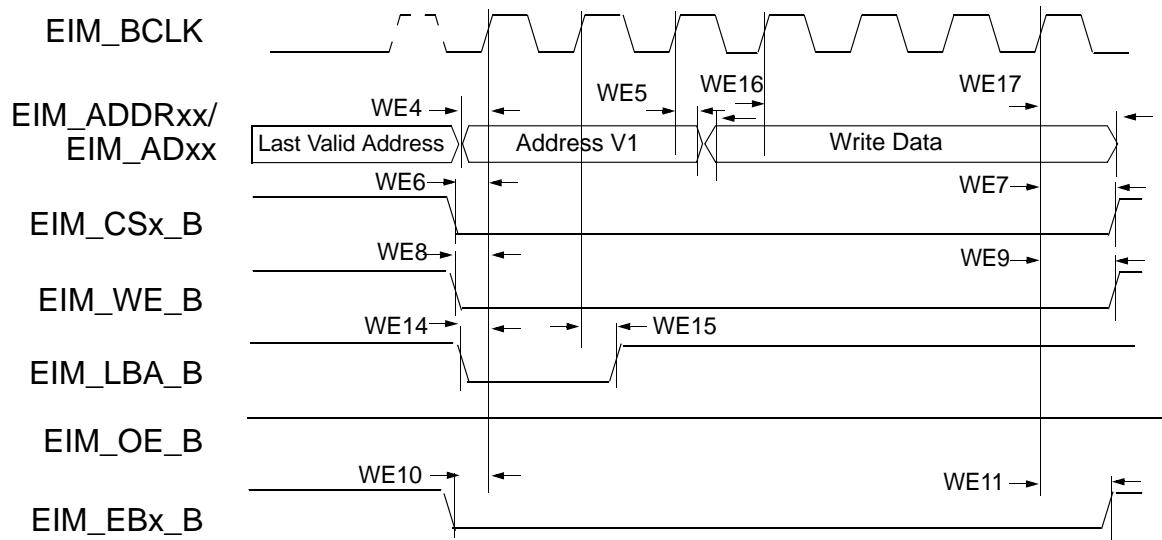
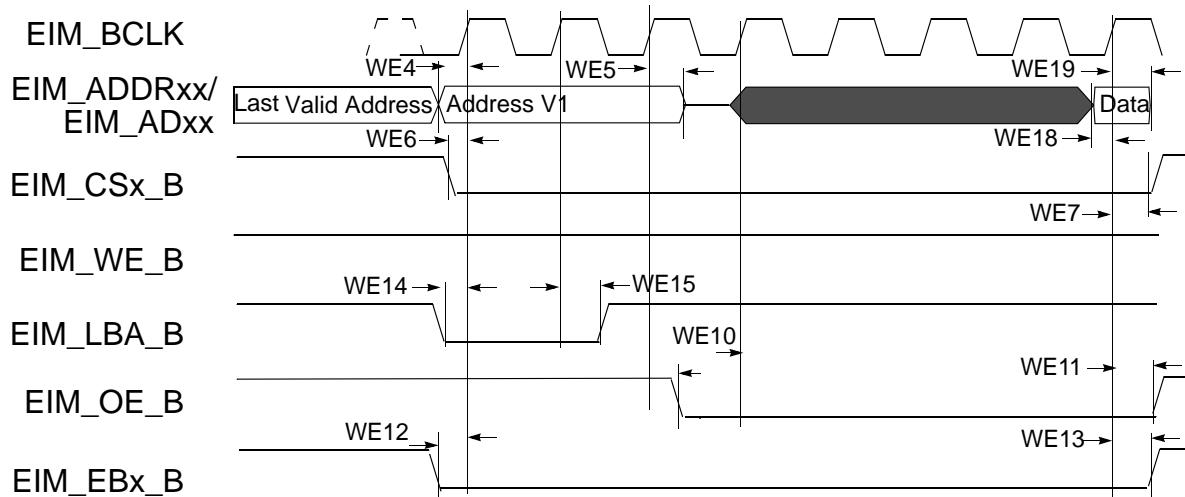

**Figure 13. Synchronous Memory Read Access, WSC=1**
Figure 16. 16-Bit Muxed A/D Mode, Synchronous Read Access, WSC=7, RADVN=1, ADH=1, OEA=0
**Figure 13 to Figure 16** provide few examples of basic EIM accesses to external memory devices with the timing parameters mentioned previously for specific control parameters settings.